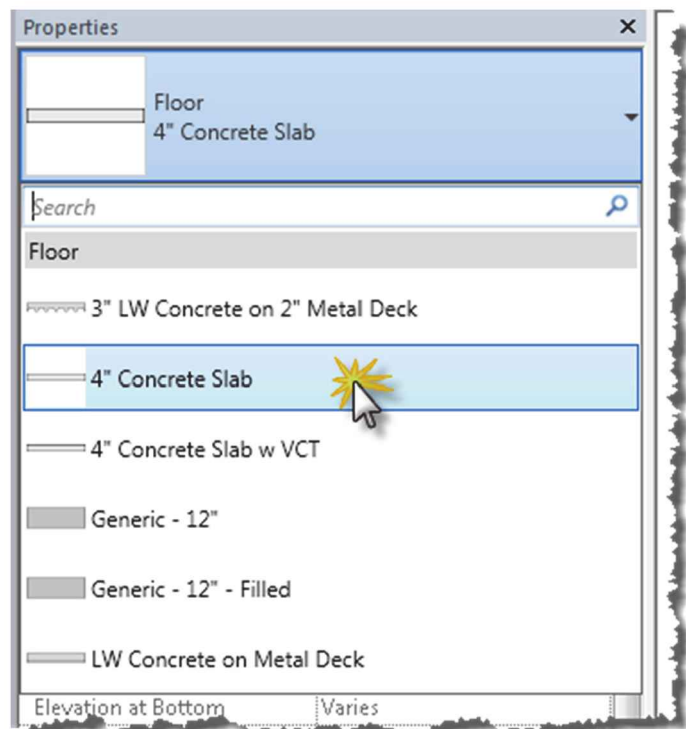

FIGURE 6-3.1 Floor tool; type selector
5. Set the *Type* to **4" Concrete Slab** (if not already); see Figure 6-3.1.